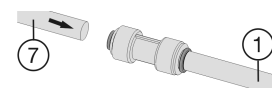

Fig. 36
- Connect the supplied extension hoses Fig. 36 (1) to the appliance hoses Fig. 36 (7): Slide the appliance hoses into the connectors as far as they will go (approx. 25/32 " (20 mm)).